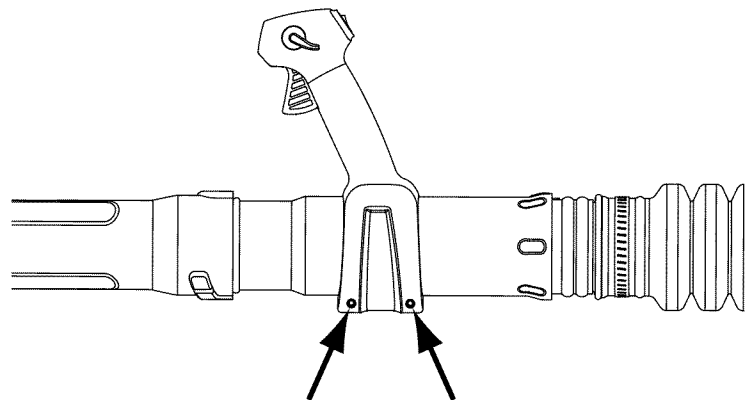

Fig. 9
2. Using a Torx T-20 Torx screwdriver, tighten the two screws at the bottom of the throttle grip (Fig. 9).